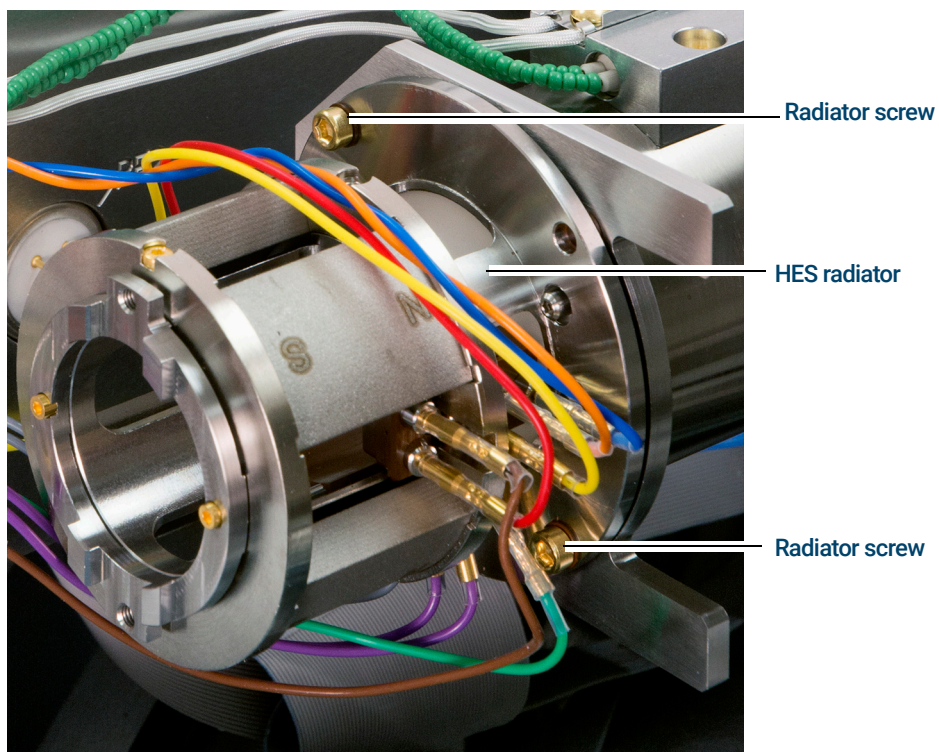

Figure 72. Securing the EI HES radiator
- 1 Place the radiator over the guide pins on the analyzer support and use a T10 Torx screwdriver to secure it using the (2) M3 × 12 gold plated screws (G7002-20110). (See **Figure 72** on page 215.)